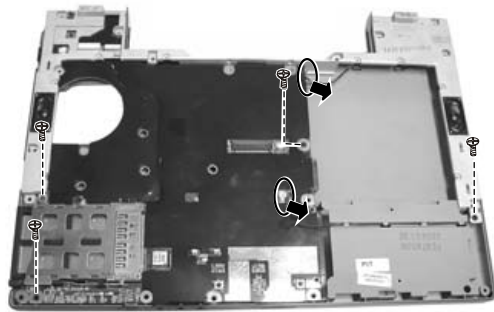

Figure 2-30 Remove four screws and disconnect the two cables
2. Remove the four screws that secure the system board and disconnect the two speaker's cables. Then lift it up from the housing. (Figure 2-30)